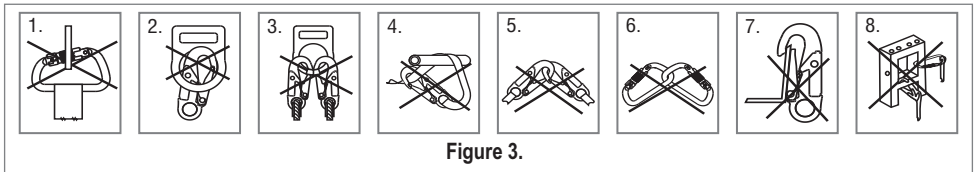

Figure 3.
Connectors are considered to be compatible with connecting elements when they have been designed to work together in such a way that their sizes and shapes do not cause their gate mechanisms to inadvertently open regardless of how they become oriented. Connectors (Hooks, Karabiners, and D-rings) must be capable of supporting at least 23 kN. Connectors must be compatible with the anchorage or other system components. Do not use equipment that is not compatible. Non-compatible connectors may unintentionally disengage (see **Figure 3**). Connectors must be compatible in size, shape, and strength. double locking snap hooks and karabiners are required by EN 362:2004.
- KStrong connectors (snap hooks and karabiners) are designed to be used only as specified in each product's user's instructions. See Figure 3 for illustration of the inappropriate connections stated below. KStrong snap hooks and karabiners should not be connected: